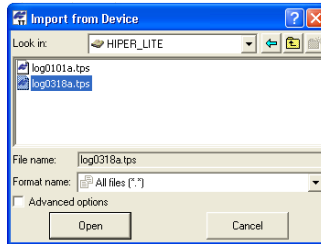

Figure 3-39. Select the TSV File to Convert and Import
5. To import the file(s) from the controller to the current job and convert them to *.tsv files, set the corresponding file format in the *Format name* field and click **Open** (Figure 3-39).